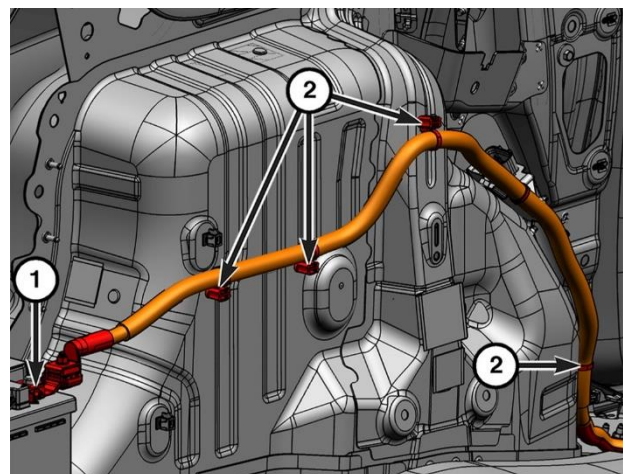

Figure 46 – 12-Volt Cable
55. Disconnect the 12-volt cable battery positive clamp (1) from the battery (Figure 46).
56. Remove the clips (2) securing the 12-volt cable to the body (Figure 46).
59. Position the 12-volt cable and secure the clips (2) (Figure 46).
60. Connect the 12-volt cable battery positive terminal end (1) and tighten to 6 N·m (53 in. lbs.) (Figure 46).